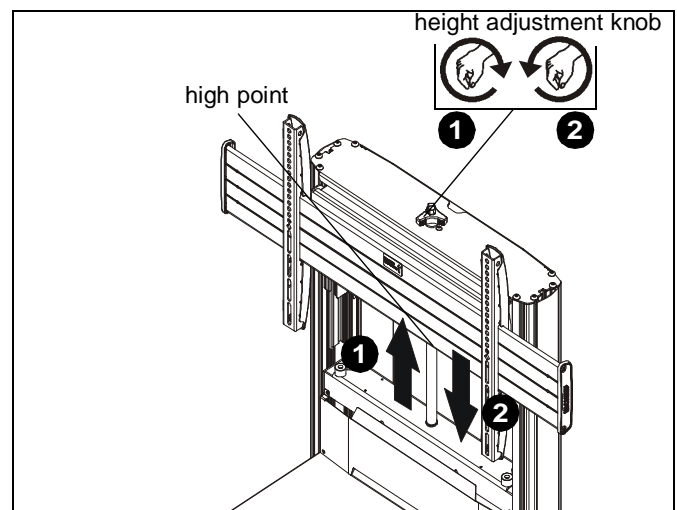
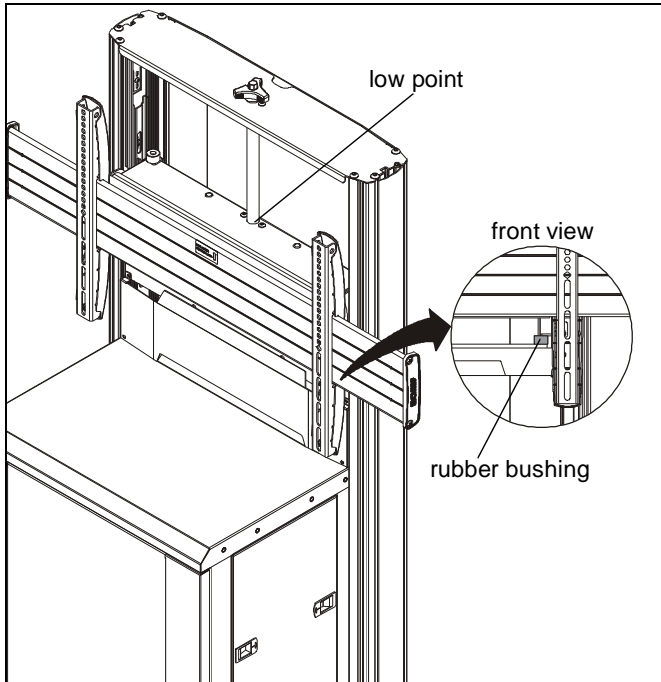

Figure 17
Figure 18
- Turn height adjustment knob clockwise to raise display. (See Figure 17)
- Turn height adjustment knob counterclockwise to lower display. (See Figure 17)
**WARNING:** Do not attempt to raise or lower the adjustment carriage beyond its upper or lower limit. (See Figure 17) and (See Figure 18) for high and low points.
**NOTE:** Lower tabs will rest on rubber bushings when the lowest point is reached. (See Figure 18) inset